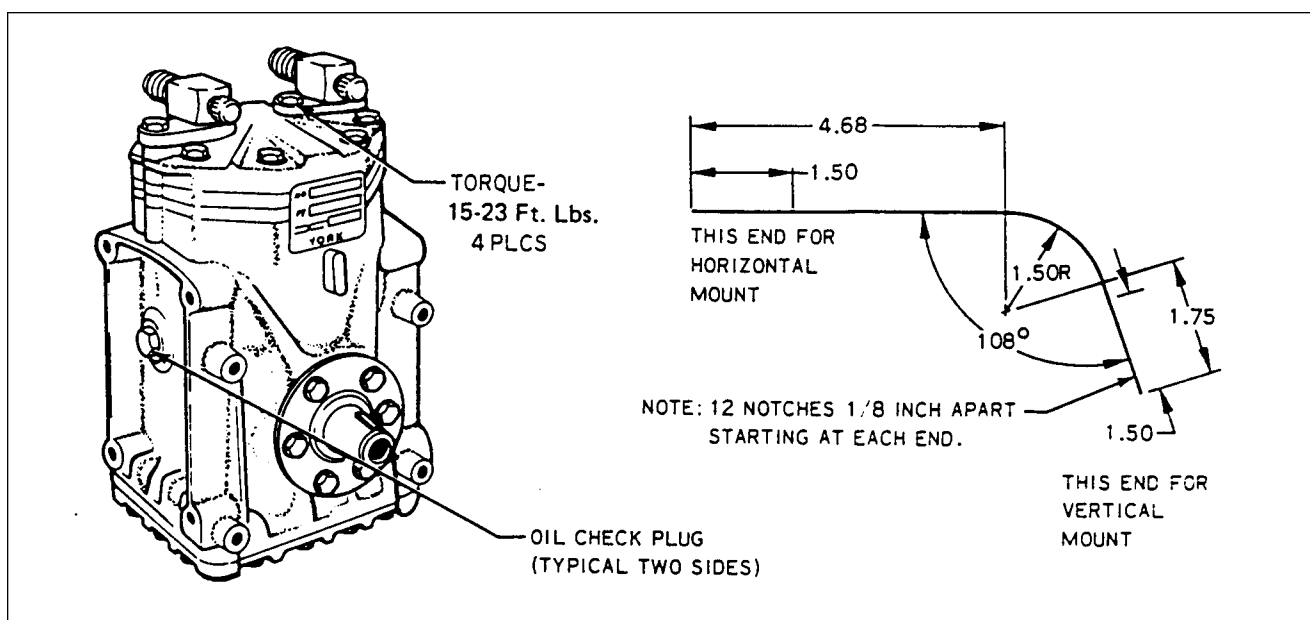

Figure 21-10. Compressor and Fabricated Oil Dipstick
2. Fabricate an oil dipstick. (Refer to figure 21-10.)
4. Before inserting dipstick, rotate crankshaft to locate Woodruff key in up position. (The compressor clutch front face is marked with a stamped K indicating key position.) Measure oil level from lowest point in crankcase. Use long end of dipstick. (See figure 21-10.)